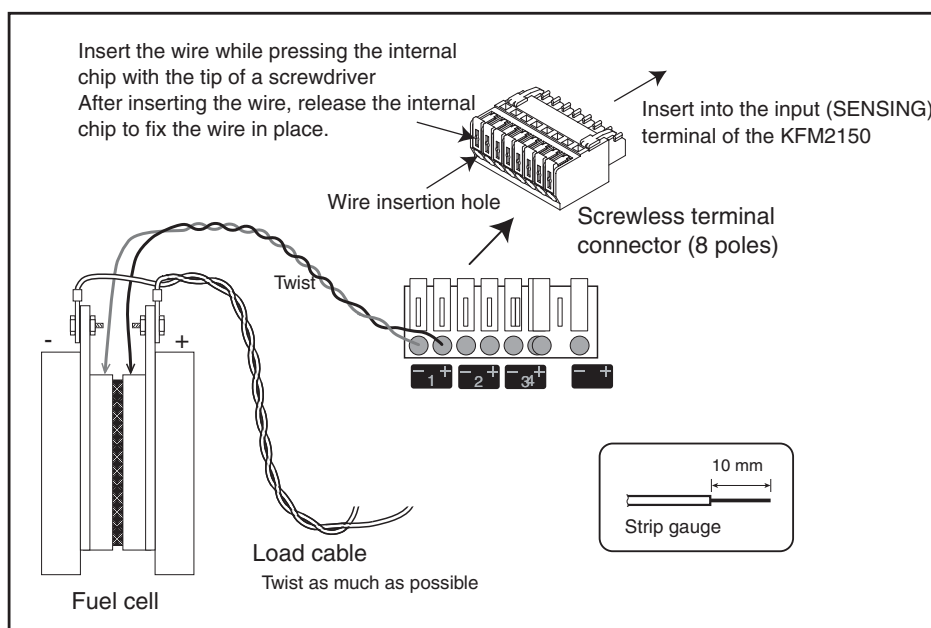

Fig. 2-10 Connection to the fuel cell
Use AWG24 wires. Remove 10 mm of the covering from the wire end. Using the strip gauge shown in Fig. 2-10 will ensure proper work.
- 2 Using a screwdriver, insert the wire into the screwless terminal connector (8 poles) provided as shown in Fig. 2-10.